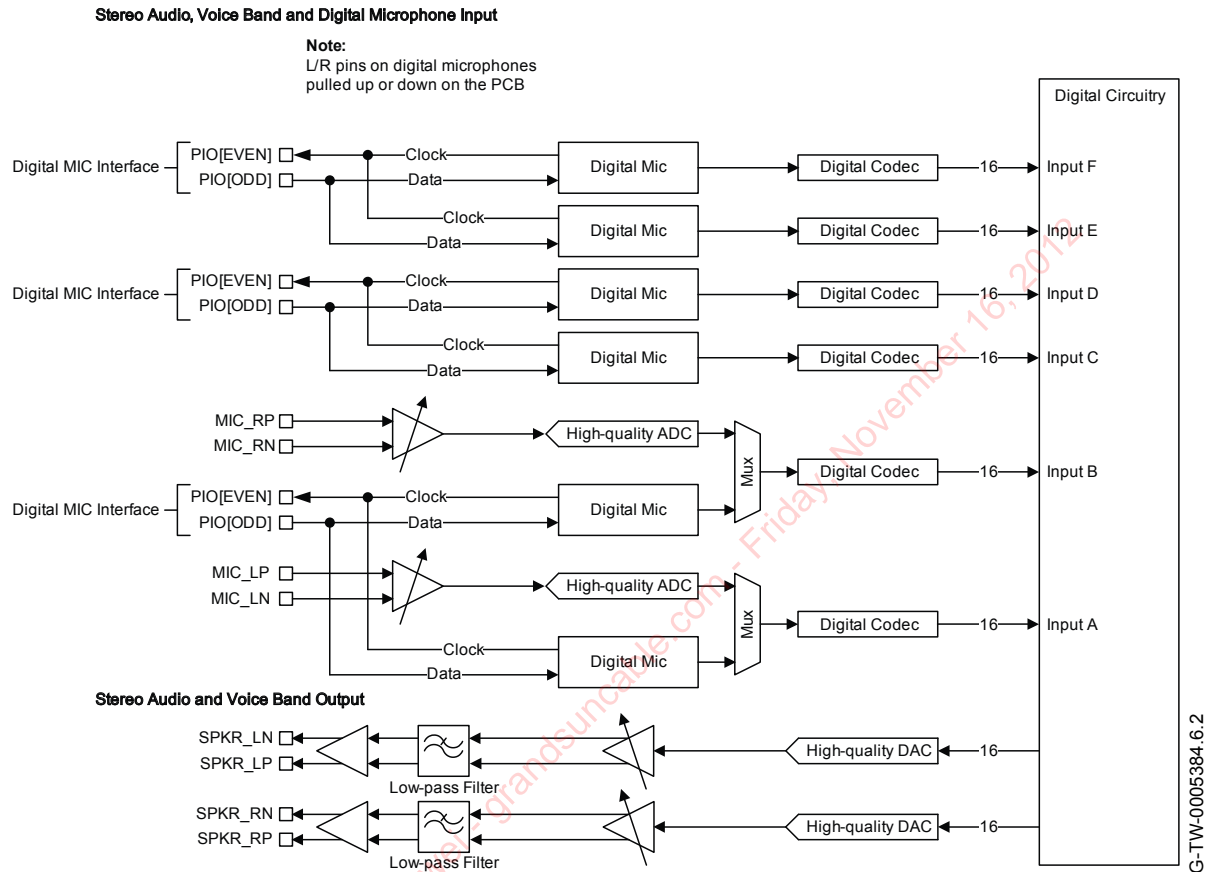

Figure 9.2: Audio Codec Input and Output Stages
Figure 9.2 shows the CSR8670 WLCSP consists of 2 high-quality ADCs:
- 2 fourth-order Sigma-Delta converters enabling 2 separate channels that are identical in functionality, as Figure 9.2 shows.